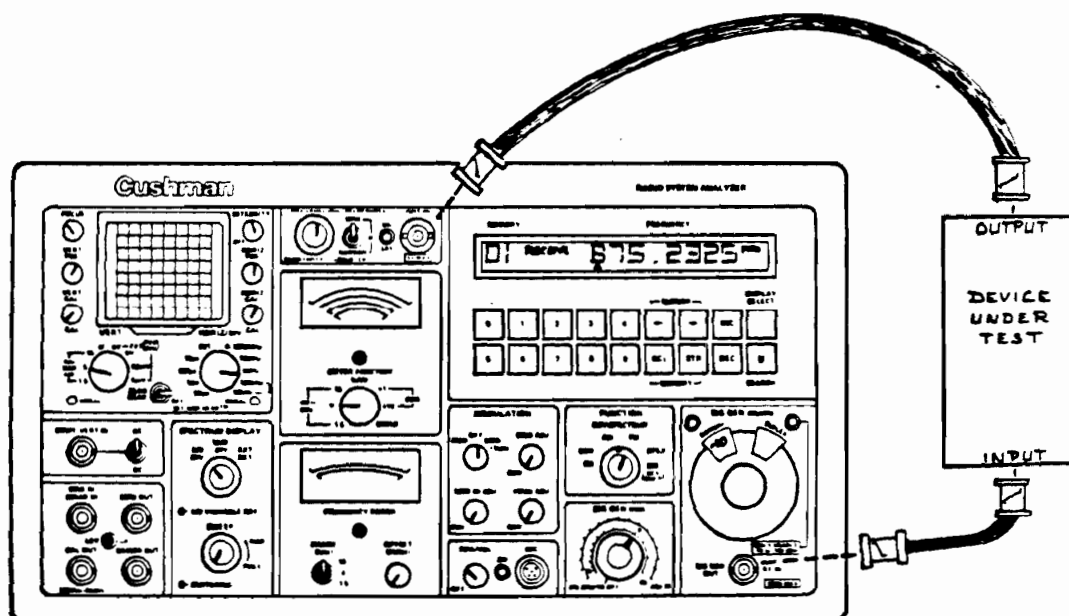

Figure 4-10. Swept Frequency Alignment Interconnect
- g. Remove the BNC barrel connector from between the two cables. Connect the cable from the SIG GEN OUT/RF IN connector to the input of the device under test, and connect its output to the cable from the ANT IN jack (refer to Figure 4-10 for Swept Frequency Alignment).